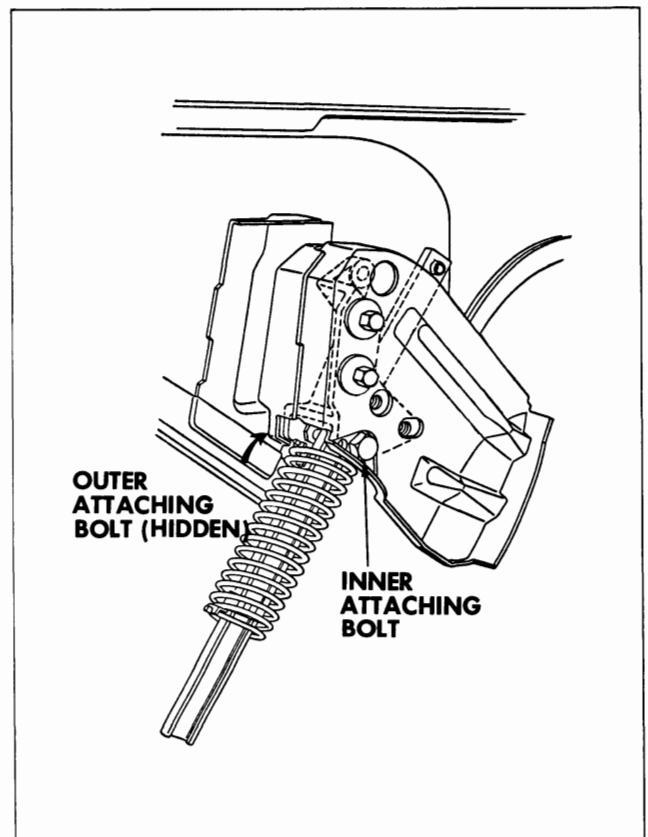

Fig. 21-8 Manual Lift Assembly
4. Remove inner and outer bolt securing lift assembly to male hinge and remove assembly from body (Fig. 21-8).